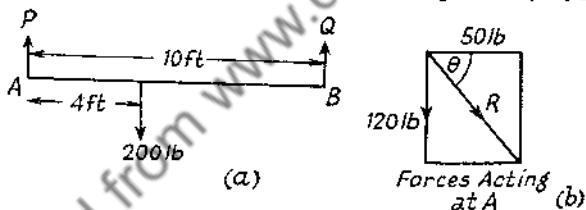

Fig. 72
(4) A shaft is supported on two bearings A and B 10 ft apart. There is a vertical load of 200 lb 4 ft from A and a horizontal force of 100 lb at the middle point of the shaft. Calculate the magnitude and direction of the resultant force acting on the pivot A (see fig. 72).